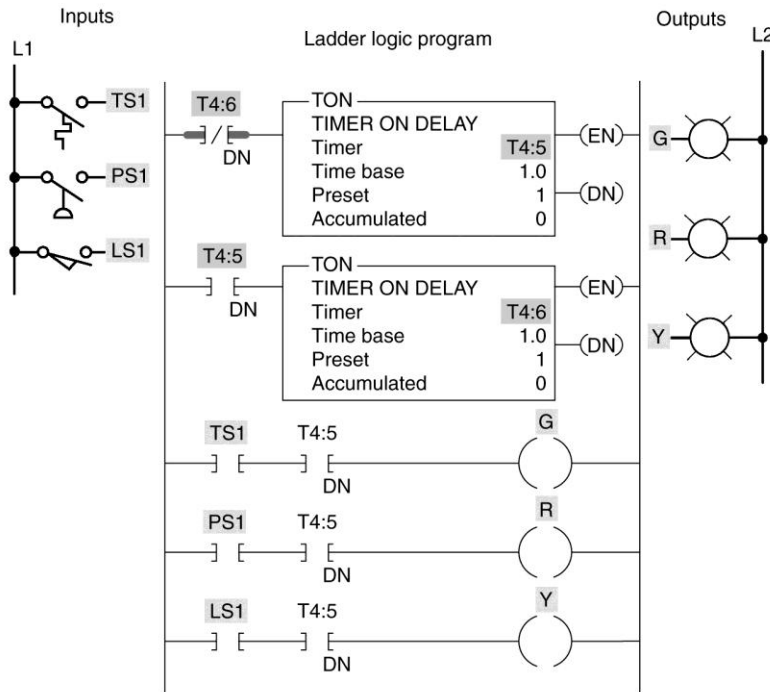

Figure 7-30 Annunciator flasher program for assignment 14.
14) The program of Figure 7-30 is described in the text and uses two interconnected TON timers to form an annunciator flasher program. Prepare an I/O connection diagram and ladder logic program for the process. Use addresses that apply to your PLC. Enter the program into the PLC, and prove its operation.